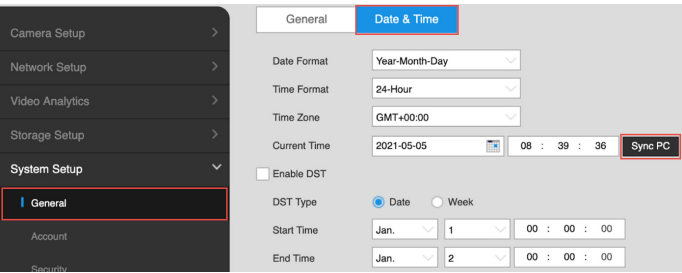

Fig. 3.7
13. Select “System Setup” from the sidebar menu and then “General” (from the sidebar menu). See Fig. 3.7.